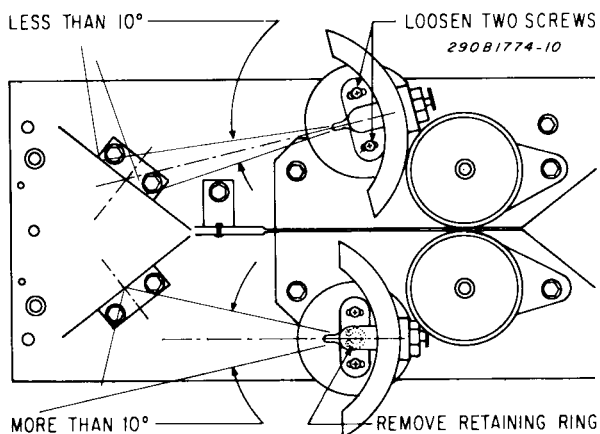

FIGURE 1
a. Loosen the two screws which secure the reflector assembly to the gear (see figure 1).
a. Remove the retaining ring (see figure 1). Lift the gear and reflector assembly to disengage the gear teeth.